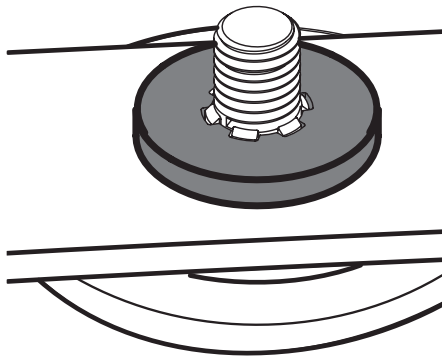

Figure 4-24
- Carefully place the flat washer on the spindle shaft. Be sure that the splines at the base of the spindle shaft threads line up with the washer splines. See Figure 4-24.